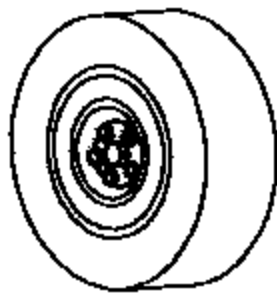

FIGURE 3
4. Remove the rear wheel and tire assembly (refer to Figure 3).